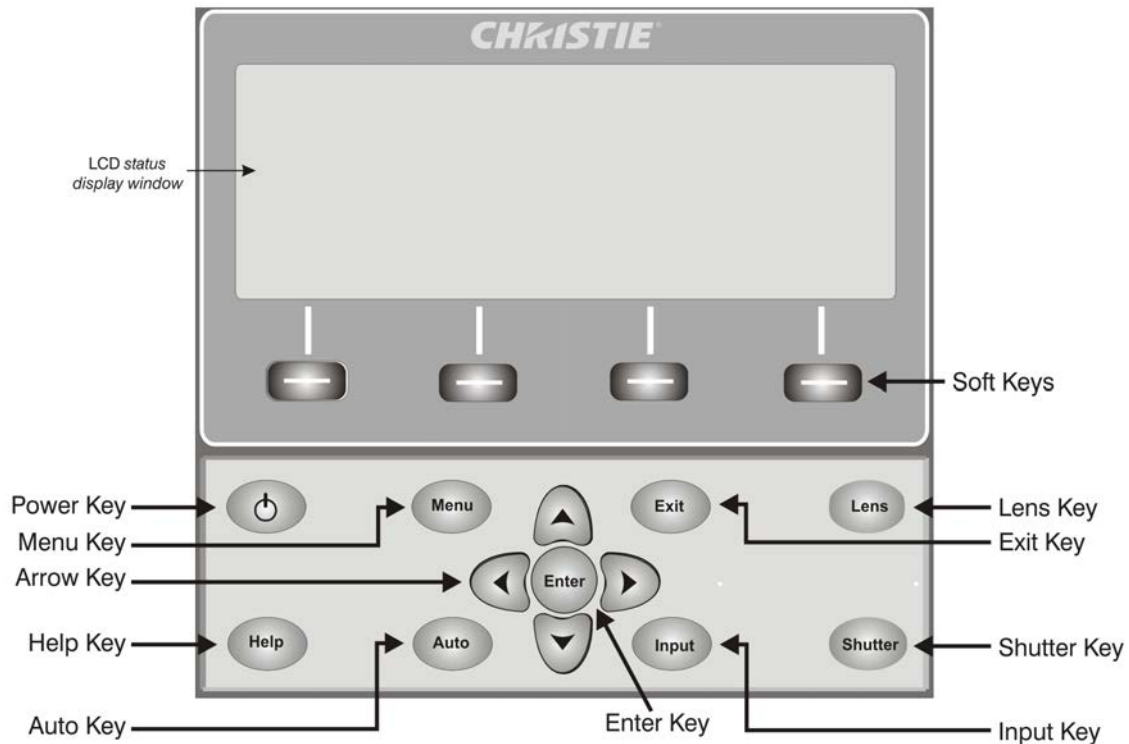

FIGURE 3-2
- **Built-in Keypad** located at the rear of the projector. See Figure 3-2.